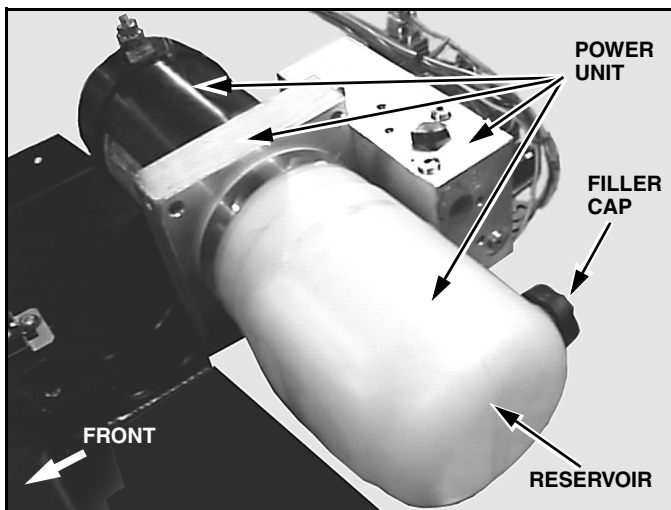
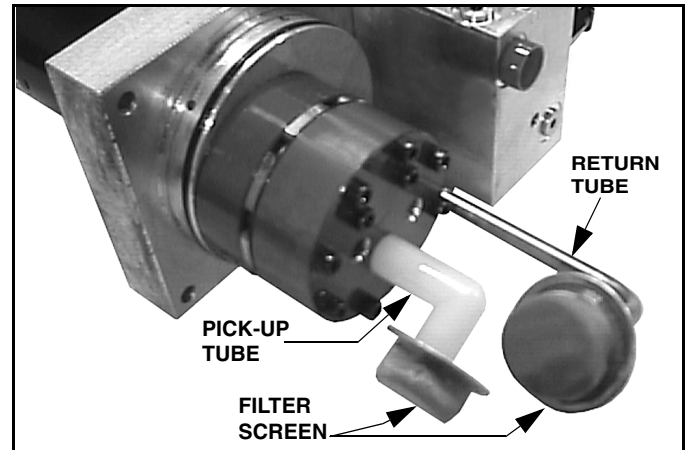

Figure 2-3
Figure 2-4
7. Lift the power unit and rotate it toward the rear of the pump platform. (See Figure 2-3).
8. Loosen the band clamp, which holds the reservoir on the center section. Pull and twist the reservoir until it separates from the center section. Place a container under the power unit to catch spilled oil. Note the position of the reservoir oil pick-up tube and be sure the tube is in the same position when the filter is removed and installed. (See Figure 2-3)(See Figure 2-4).
10. Pull the filter screens from the oil pick up tube and return tube and clean them with a suitable solvent. Blow-dry the filter from the inside with low-pressure air. (See Figure 2-4).